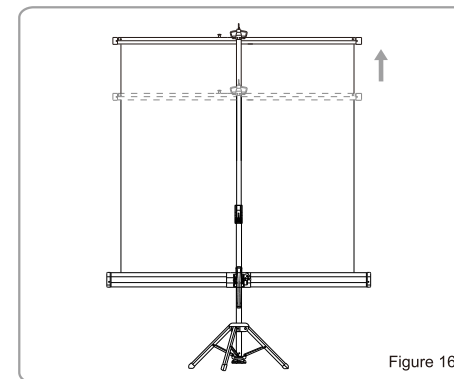

Figure 16
(Figure 16)
8. Hold the adjustable uphold bar while pressing the button. Ascend the adjustable height bar to achieve the perfect height of the screen. (Figure 16)